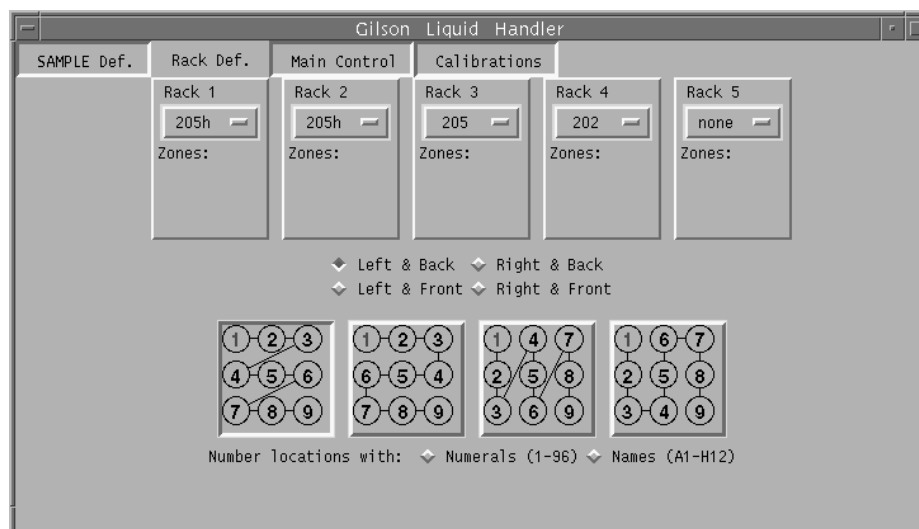

Figure 103. Rack Definition Window
- **Rack Def.** (shown in Figure 103) – For defining which racks and containers are available to the Liquid Handler.
Use the Rack Def. pane (shown in Figure 103) to set up sample racks on the Gilson Liquid Handler.